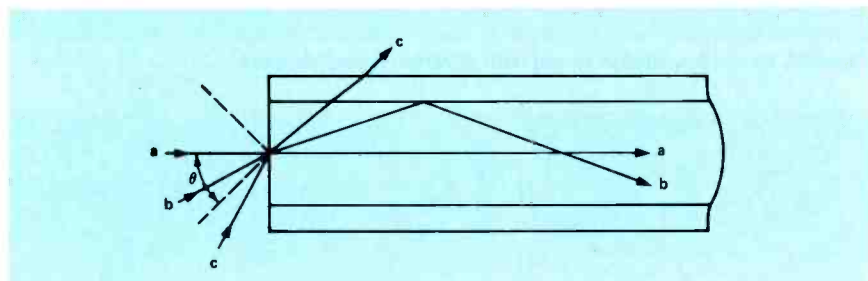

Figure 5. The critical angle,  $\theta$ , is also known as the maximum propagation angle.
Figure 5 shows three light rays, a, b and c, entering an optical fiber. Ray a enters the fiber along the longitudinal axis and travels down the cable as shown. Ray b enters the cable at an angle to the longitudinal axis less than the angle  $\theta$  and is reflected down the cable as shown. Ray c enters the
NA is equal to the square root of the difference between the square of the peak value of the reflective indices of the core and the cladding, which is also equal to the sine of  $\theta$ . The NA for most fibers falls between 0.1 and 0.3 which approximately corresponds to the sines of angles between 5.7 and 17.4 degrees. As shown in Figure 5, these are  $\frac{1}{2}$  angles. Two things to remember about light acceptance are (1) only the light entering the fiber at a small angle to its longitudinal axis will travel down the fiber and (2) the greater the difference between the reflective indices of the core and cladding, the larger this angle will be.